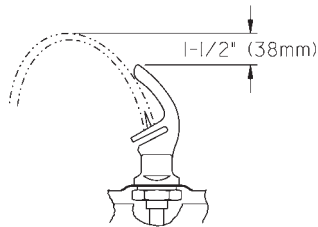
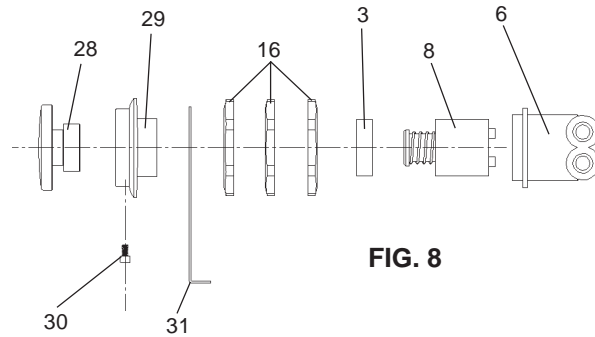

FIG. 9
FIG. 8
15. Check stream height from bubbler. Stream height is factory set at 45-50 PSI . If supply pressure varies greatly from this, adjust the screw on regulator (item 8) by using a small screwdriver through the small hole in the push button (item 28)(See Figure 8, Page 4). Clockwise adjustment will raise stream height and counter-clockwise will lower stream height. For best adjustment stream height should be approximately 1-1/2" (38mm) above the bubbler guard. (See Fig 9)
16. Mount lower panel. Loosen the (2) #10-24 x 5/8" (16mm) screws at frame bottom lip. Slide upper tongue of lower panel under lower edge of already installed upper panel. Tighten previously loosened screws securely.